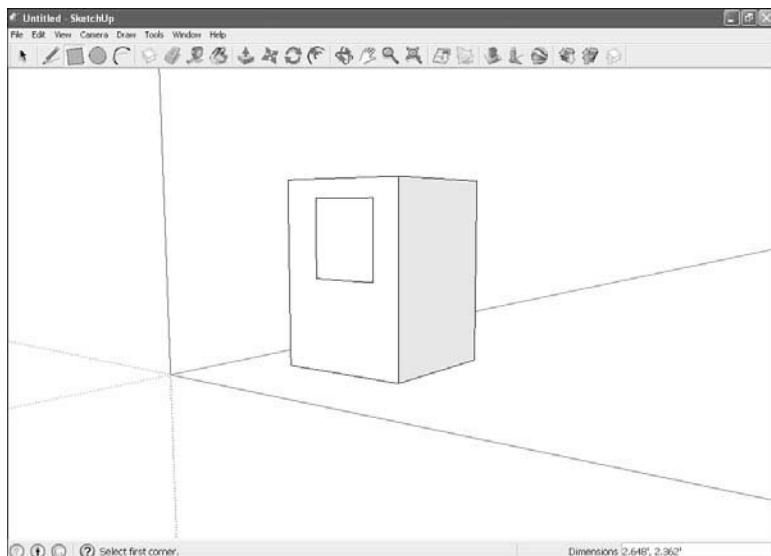
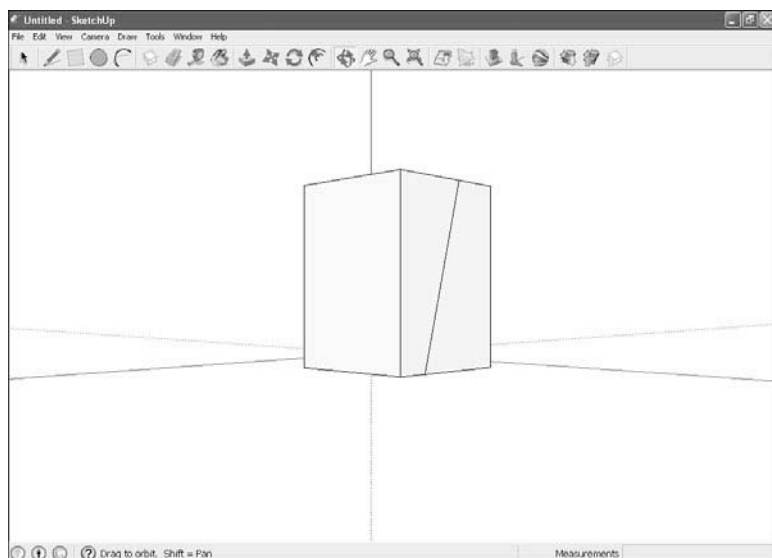

FIGURE 5.12 A 3D block with rectangle.
FIGURE 5.13 A 3D block from the back, showing a blocking edge.
You can use the Eraser tool to erase edges, and that can help when you're going 3D. For example, take a look at the block in Figure 5.12.
3. Search for obstructing edges—SketchUp won't push openings through edges. In the case of the object in Figure 5.12, it turns out that there's an edge drawn across the back of the object, as you can see in Figure 5.13. This edge will stop SketchUp from pushing an opening through the object.